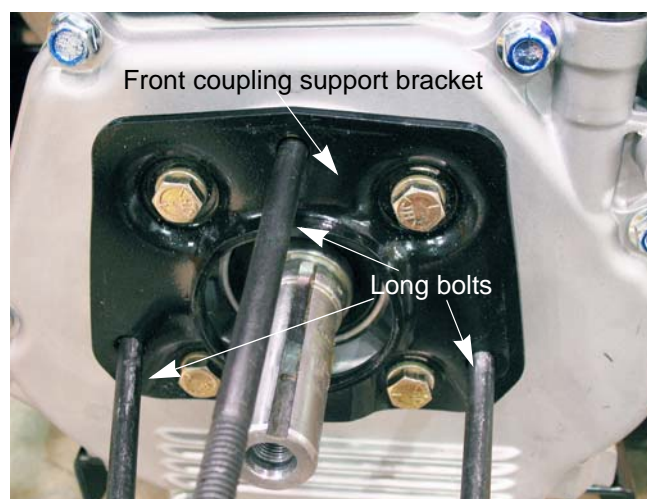

Figure 2.4
9. Remove the front coupling support bracket using a 1/2" wrench. See Figure 2.4.